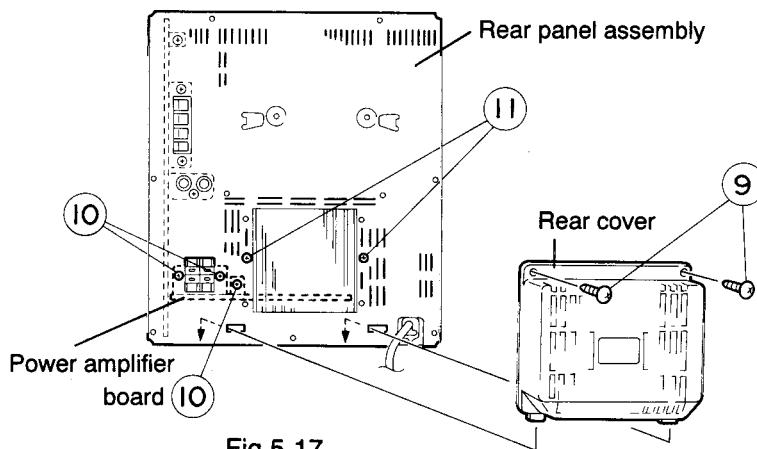

Fig.5-17
(See Fig. 5-17)
7. Remove the five screws (⑩ x 3, ⑪ x 2) fastening the power amplifier board to the rear panel assembly.(See Fig. 5-17)
8. Remove the two screws ⑬ fastening the voltage select board to the rear panel assembly.